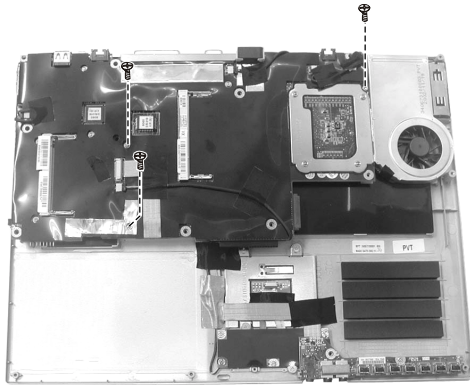

Figure 2-19 Remove the three screws
4. Remove three screws fastening the mother board ASSY. (Figure 2-19)